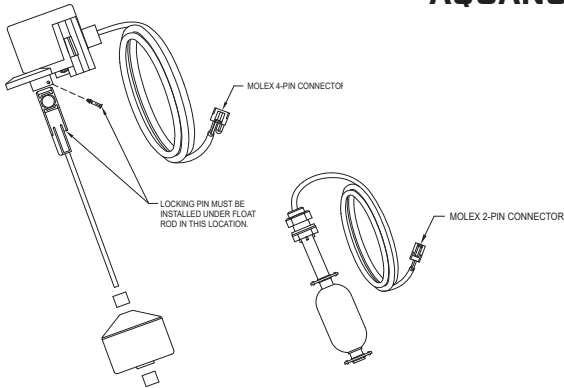

FIGURE 3
- Assemble the operational float assembly per Figure 3. Install float switches as seen in Figure 1. The top rubber stop is not needed unless the "on" level needs to be lowered.
11. Install the Spin Controller (see Figure 3) by using the anchors provided. For best cooling, install wall mount configuration. The controller should be located at least 3' (1 m) above the sump.
- Check 30 amp fuse on controller (see fig. 3). If fuse is blown, replace with 30 amp automotive blade fuse.